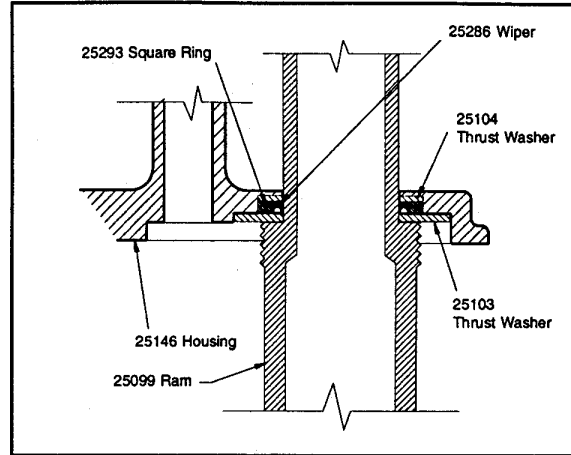

Figure 1.
10. Install the backup washer (42) into the step in the housing. The square ring and wiper should be below the backup washer. SEE FIGURE 1.
11. Move the square ring and the wiper up until they both rest on the backup washer (42). The wiper should be inside of the inside diameter of the square ring.
12. Install the thrust washer (45) so that it is flush with the bottom of the square ring and wiper, and is in the step in the housing as shown in figure 1. Move the ram up toward the thrust washer until the feed gear meshes with the pinion gear and the top of the feed gear is butted up next to the thrust washer. Hold the completed ram and housing assembly in place.